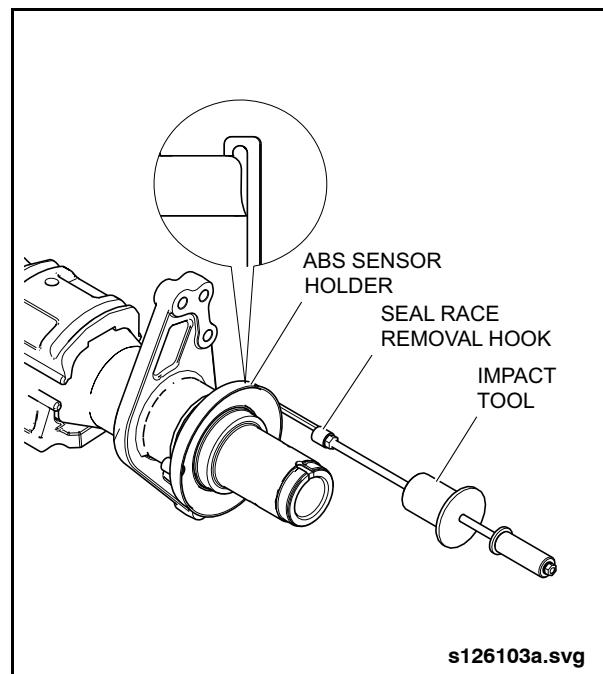

Fig. 2-146: Removing ABS Sensor Holder
9. Position the seal race removal hook on the ABS sensor holder. See "Fig. 2-146: Removing ABS Sensor Holder" on page 126.